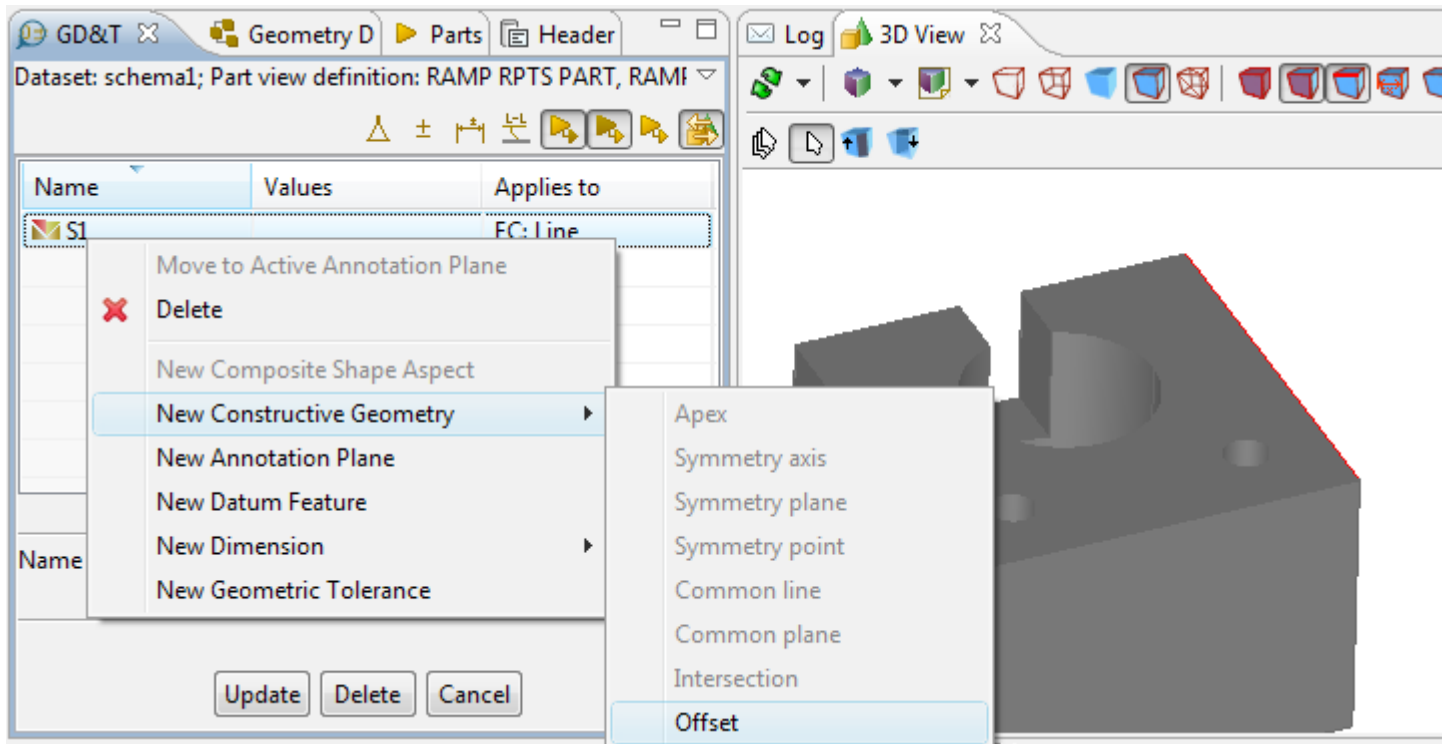

Figure 1. Selected items: line, menu item to create offset in GD&T view and line in 3D View
- Right click and select **Create Constructive Geometry** -> **Offset** item in the appeared context sensitive menu (see Figure 1).